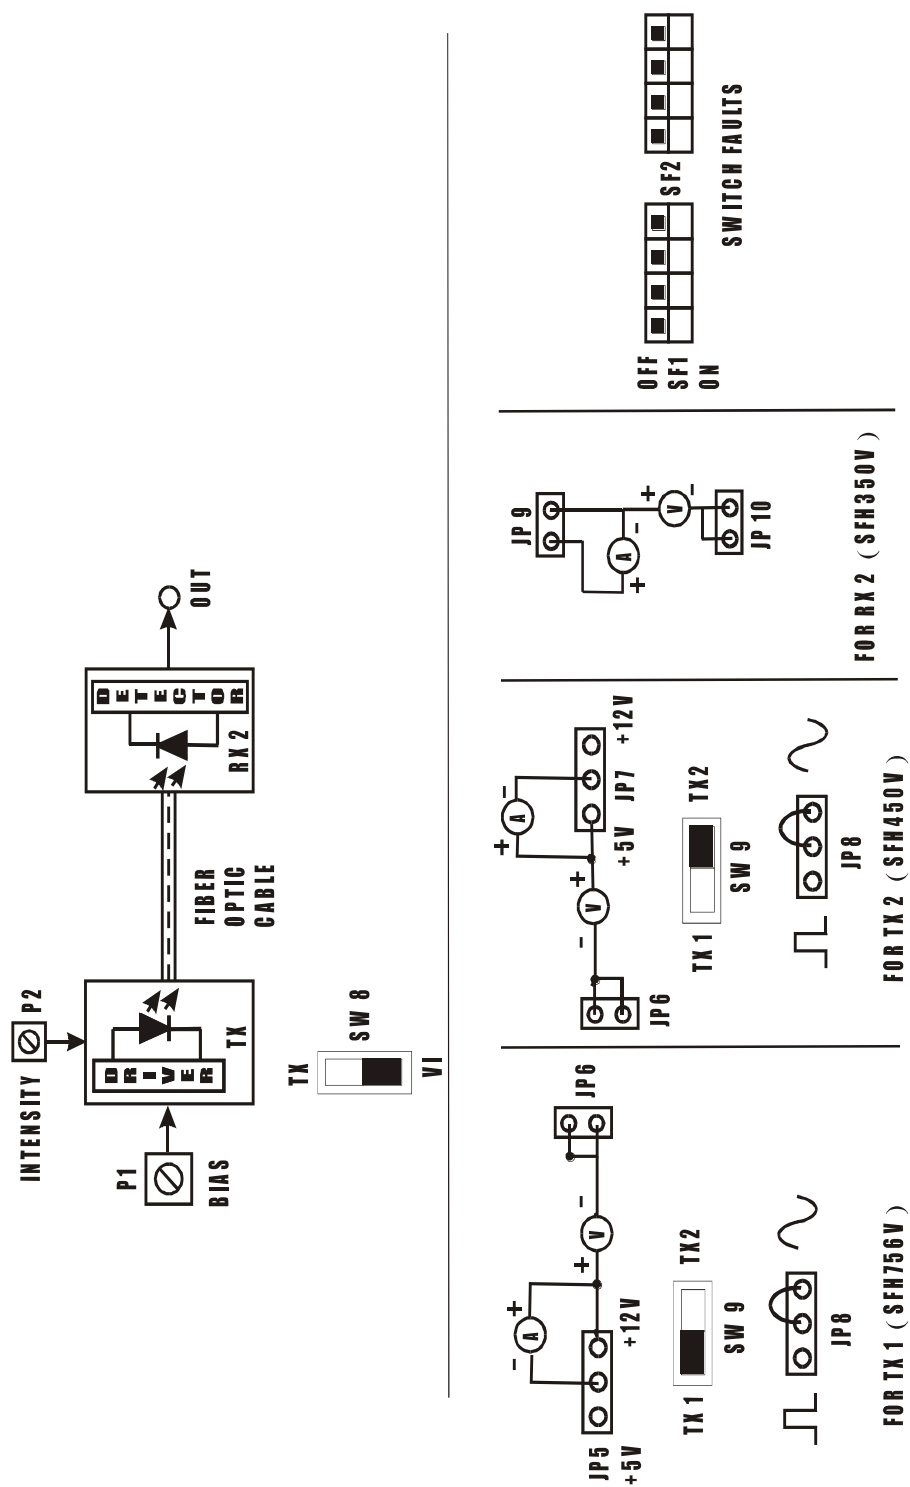

FIG.5.1 BLOCK DIAGRAM FOR CHARACTERISTICS OF FIBER OPTIC LED'S AND DETECTORS.
- Make connections as shown in **FIG.5.1**. Connect the power supply cables with proper polarity to FO-A-P Kit. While connecting this, ensure that the power supply is OFF.
- Insert the jumper to crocodile connecting wires (provided along with the kit) in jumper **JP5, JP6, JP9** and **JP10** at positions shown in the fig 5.1.
- Insert the jumper to crocodile connecting wires (provided along with the kit) in jumper **JP5, JP7, JP8, JP9, JP10** at positions shown in the fig 5.1 and